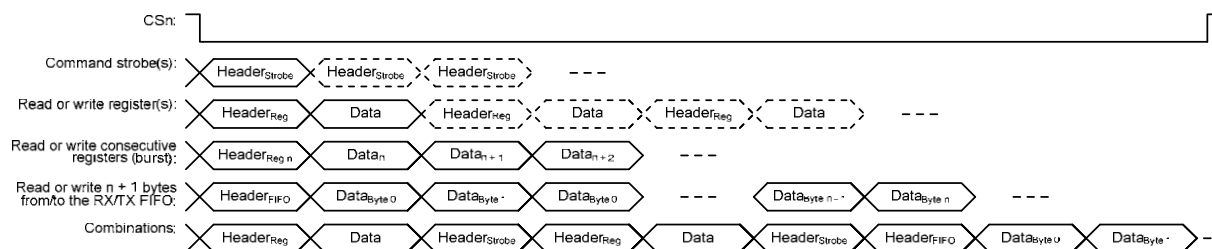

Figure 12: Register Access Types
**HC210M-TR** can be configured using the SmartRF→ Studio software [8]. The SmartRF→ Studio software is highly recommended for obtaining optimum register settings, and for evaluating performance and functionality. A screenshot of the SmartRF→ Studio user interface for **HC210M-TR** is shown in Figure 12.